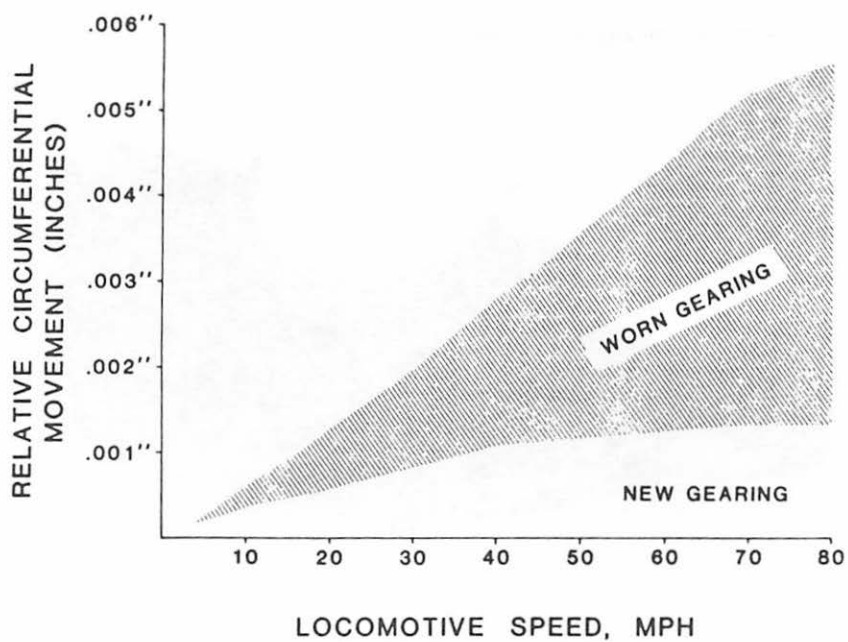
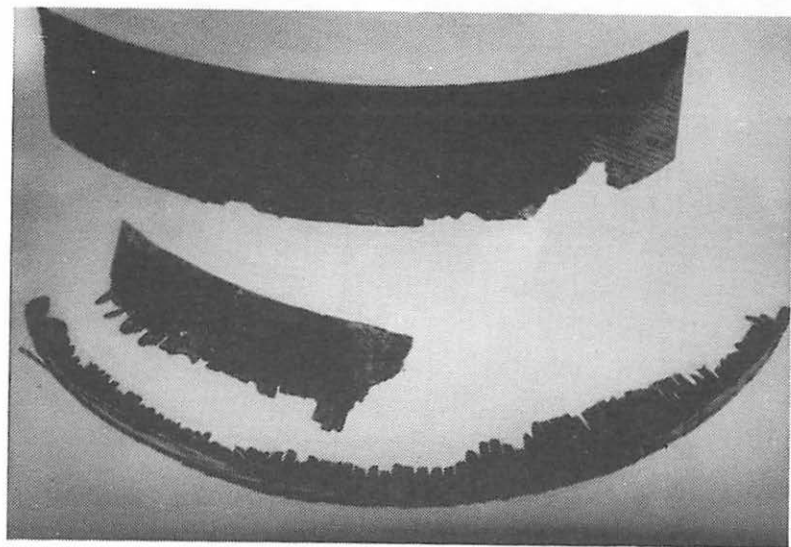
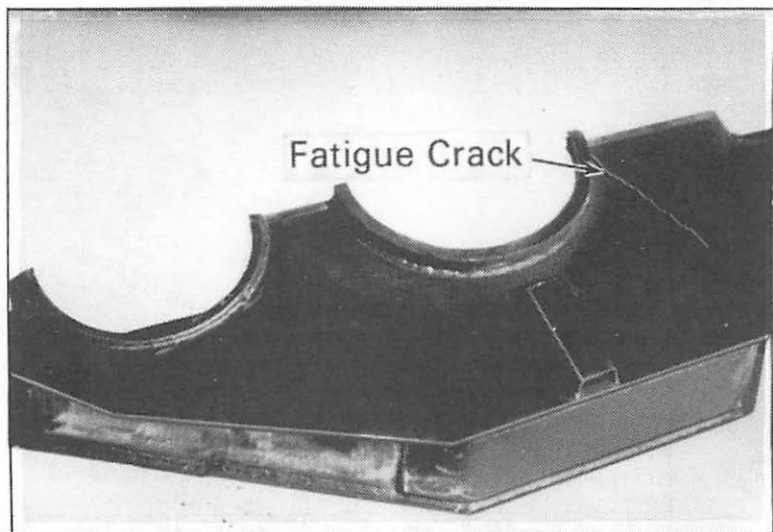
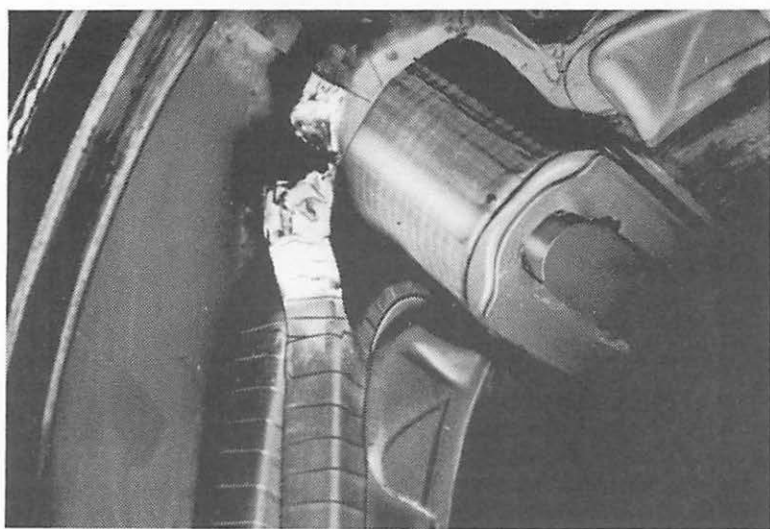

Fig. 3
Fig. 4
Fig. 5
Fig. 6
2. An increase in armature circumferential movement (Fig. 3.) causing insulation chafing and wear (Fig. 4) leading to grounds and shorts in windings, fatigue cracks in gear cases (Fig. 5), fatigue failure at brazed stator field coil connections (Fig. 6).